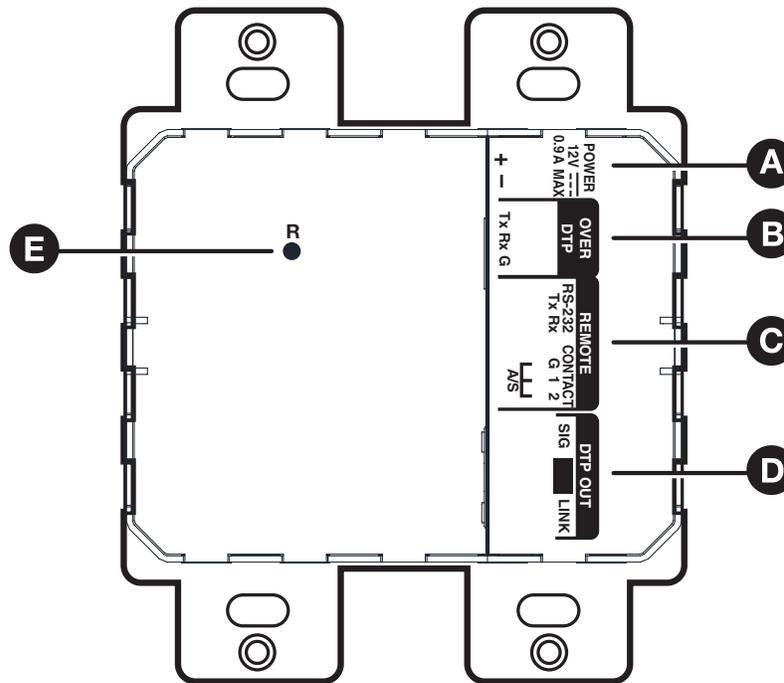

**Figure 5. Audio Input Connector Wiring**
- A** Audio input connector — Connect an unbalanced stereo audio source to this 3.5 mm mini stereo jack. Figure 5 shows how to wire the audio plug.
- A Audio input connector** — Connect an unbalanced stereo audio source to this 3.5 mm mini stereo jack (see figure 5 on page 8 for wiring details).